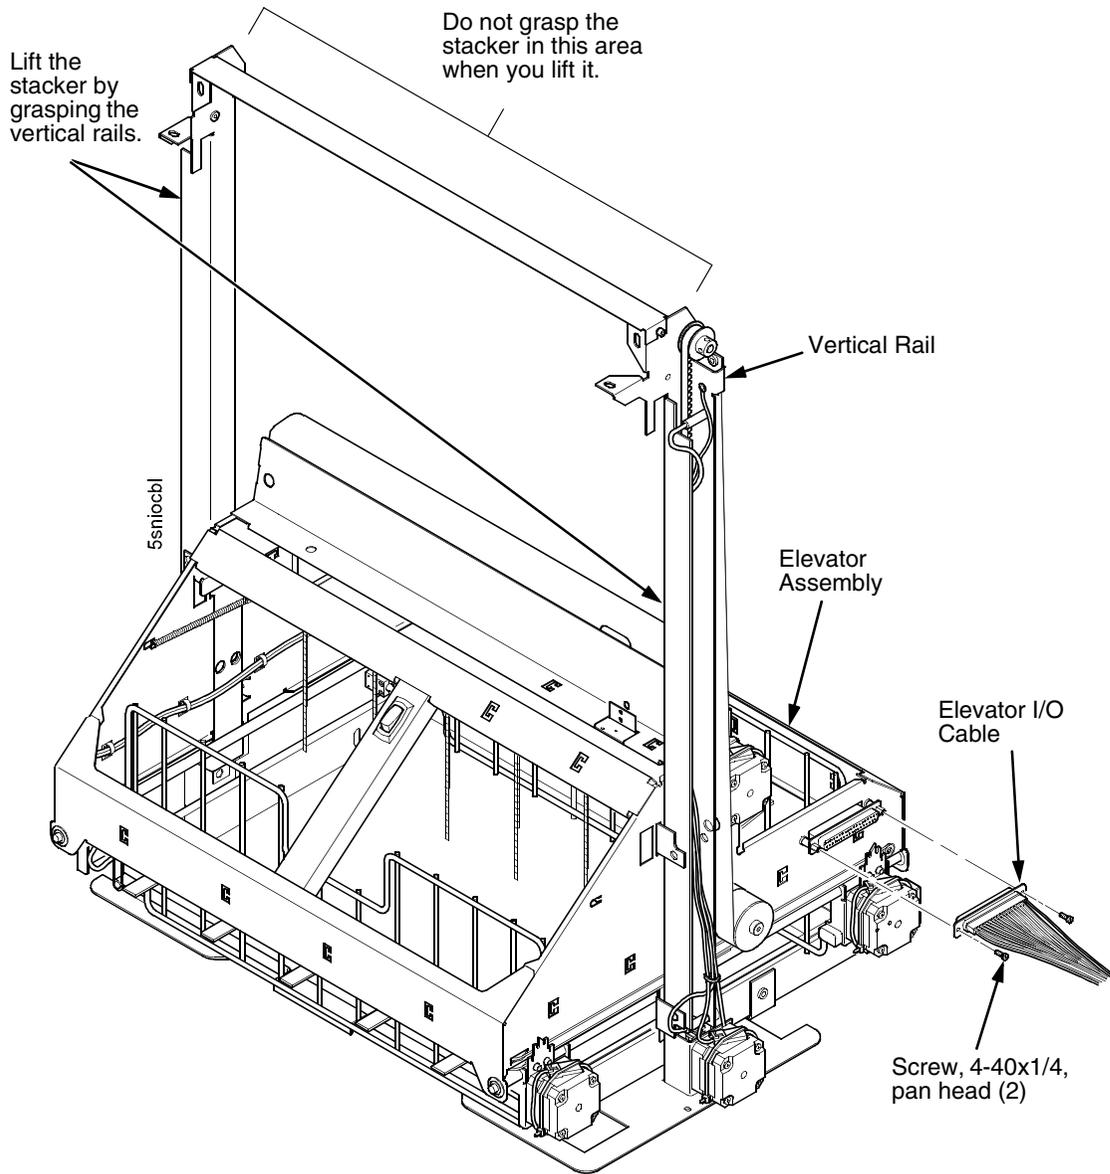

Figure 85. The Elevator I/O Cable
13. Position the elevator assembly at the bottom of the vertical rails. (Figure 85.)
14. Connect the elevator I/O cable to the elevator assembly and install the two 4-40 x 1/4 inch screws, as shown in Figure 85.